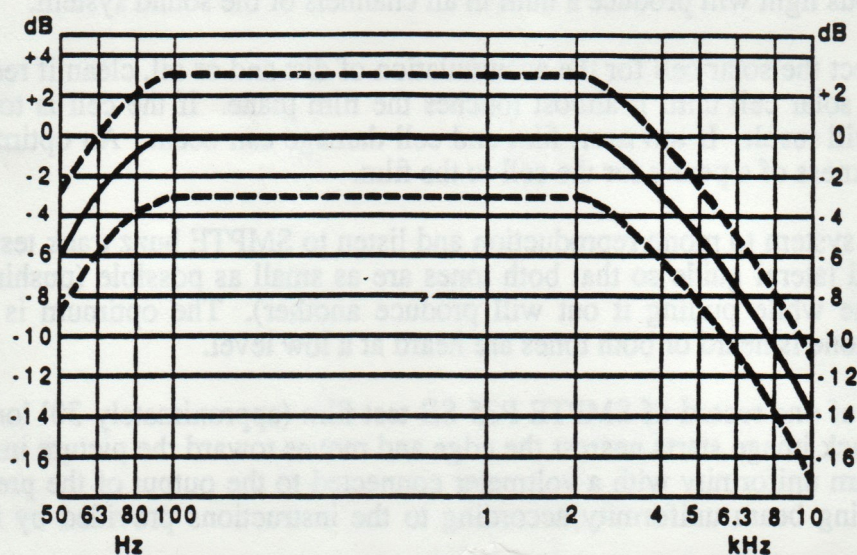

Figure 2 - B-Chain Frequency Response Characteristic for Mono Theatres
1. If you have a spectrum analyzer available, inject Pink Noise into the system after the preamplifier output, such as at the top of the volume control. Adjust any available equalizer, filter network, crossover, or the like, for Curve N electro-acoustic response shown in Figure 2.